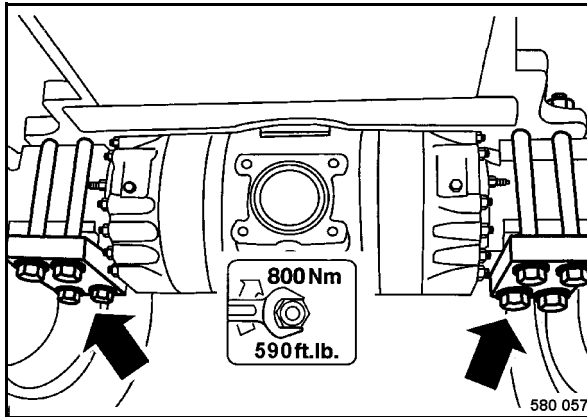

Fig. 94
- Check all fastening nuts for the axle studs for tight fit (Fig. 94).